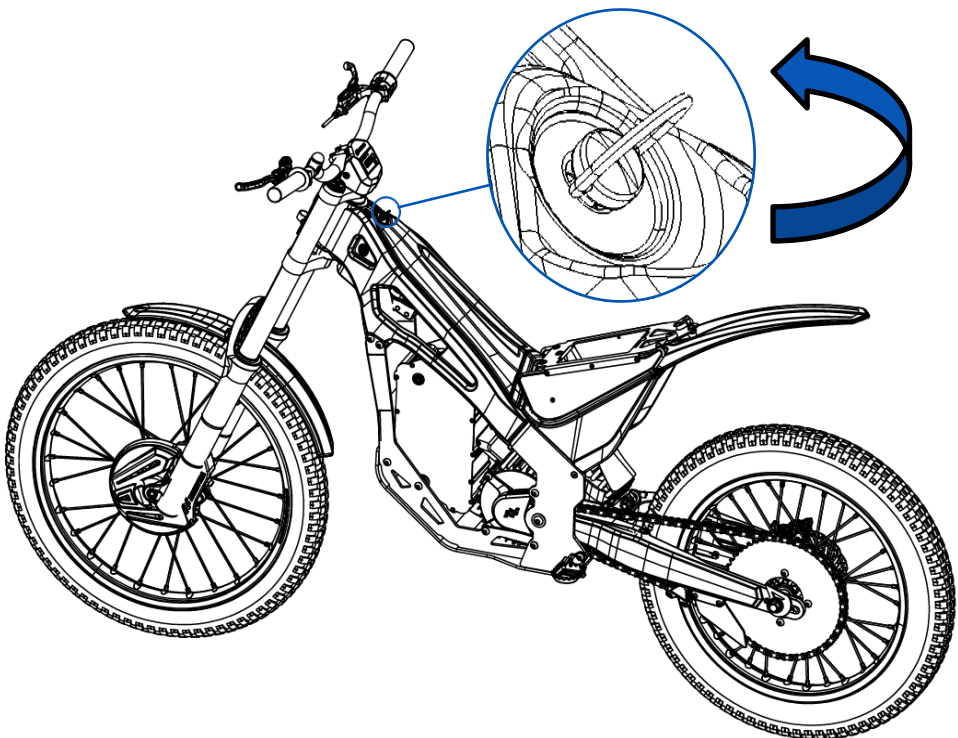

Fig. 40
- 3- Next, turn the quick screw located on the top (Figure 40) half a turn to the left. Remove it without removing it from the upper casing, to remove this component from the frame.
- 3- Next, turn the quick-release screw located on the top (Figure 40). Remove it without actually removing it from the upper casing, in order to remove this component from the frame.